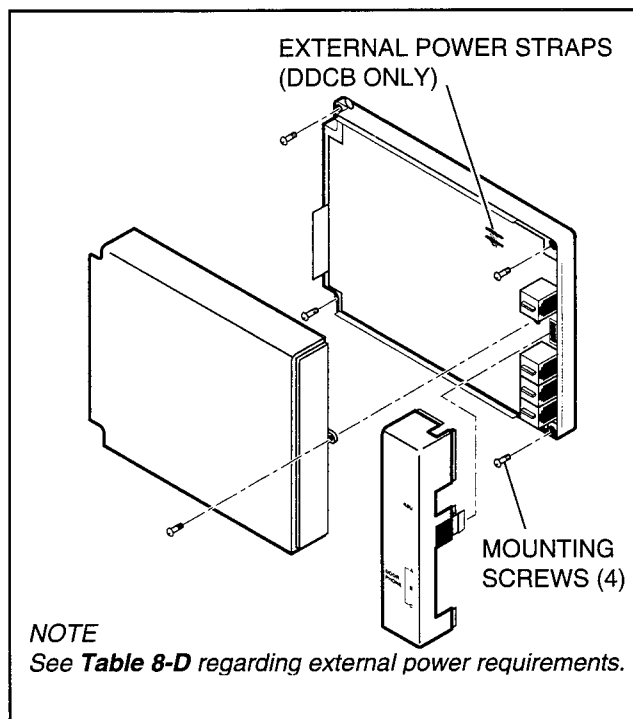

FIGURE 6-16
- 1) Locate the two mounting holes on the right-hand side on the DDCB (Figure 6-16).
- 2) Remove the side cover from the DDCB to expose the two left-hand mounting holes (Figure 6-16).